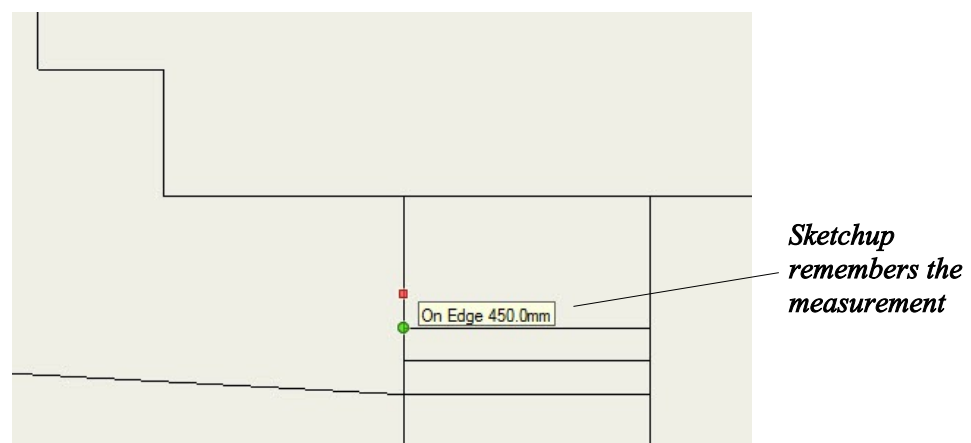

Figure 14. Sketchup remembers the last measurement entered
- From the Endpoint of the line draw a line on the red axis to meet the parallel line as shown in Figure 14. Complete a total of 4 steps.
TIP Sketchup will 'remember' the last measurement you entered. All you need to do is select the endpoint of the previous line and move your mouse in the green axis. When '450' appears next to your pointer, click there and continue across on the red axis to draw the step as shown in Figure 14.